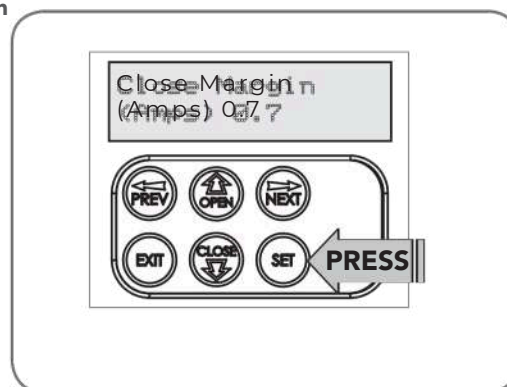

Fig 9.3
- MENU 2.1: CLOSE Margin** is displayed (**Fig. 9.3**).